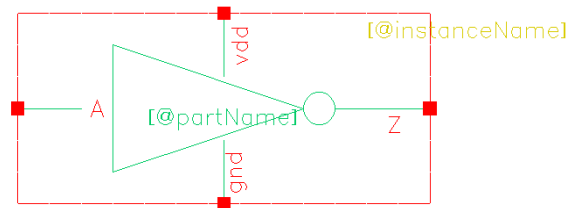

Figure 1.18: Inverter symbol.
- Shape your symbol how you want it, as depicted in Fig. 1.18 and Check and Save it. There should be no warnings or errors.